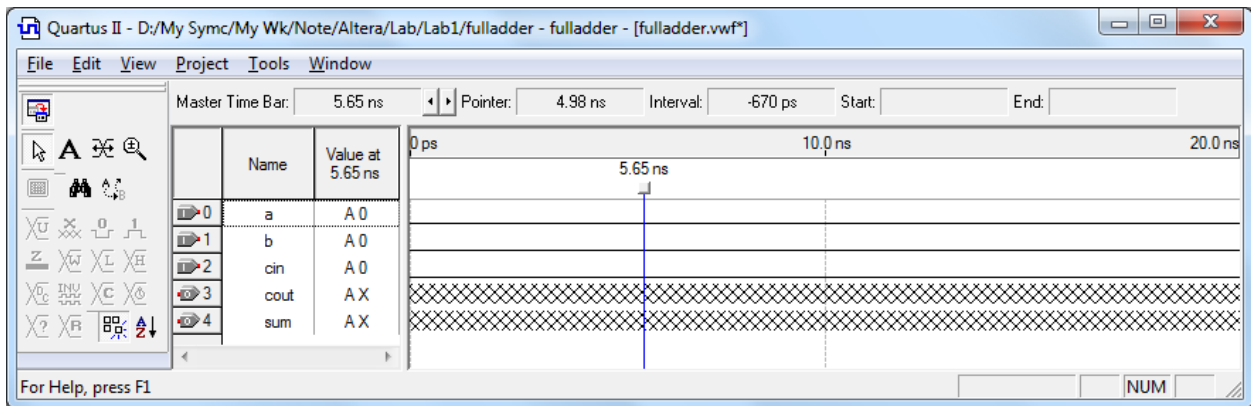

**Figure 17: The Insert Node or Bus dialogue**
- Next, we want to include the input and output nodes of the circuit to be simulated. Click **Edit > Insert > Node or Bus** to open the window in Figure 17. It is possible to type the name of a signal (pin) into the Name box, but it is easier to click on the button labeled **Node Finder** to open the window in Figure 18. The Node Finder utility has a filter used to indicate what type of nodes are to be found. Since we are interested in input and output
pins, set the filter to **"Pins: all"**. Click the **"List"** button to find the input and output nodes as indicated on the left side of the figure. Select all signals and click the **>** sign to add it to the Selected Nodes box on the right side of the figure. Click **"Ok"** to close the Node Finder Window and then **"Ok"** in the window of Figure 17. This leaves a fully displayed Waveform Editor window, as shown in Figure 19.